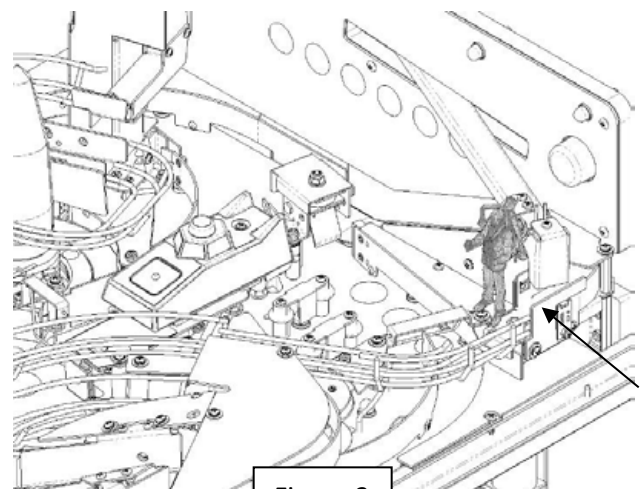

Figure 3
4. Manually move the boom to the pickup location. See Figure 3.